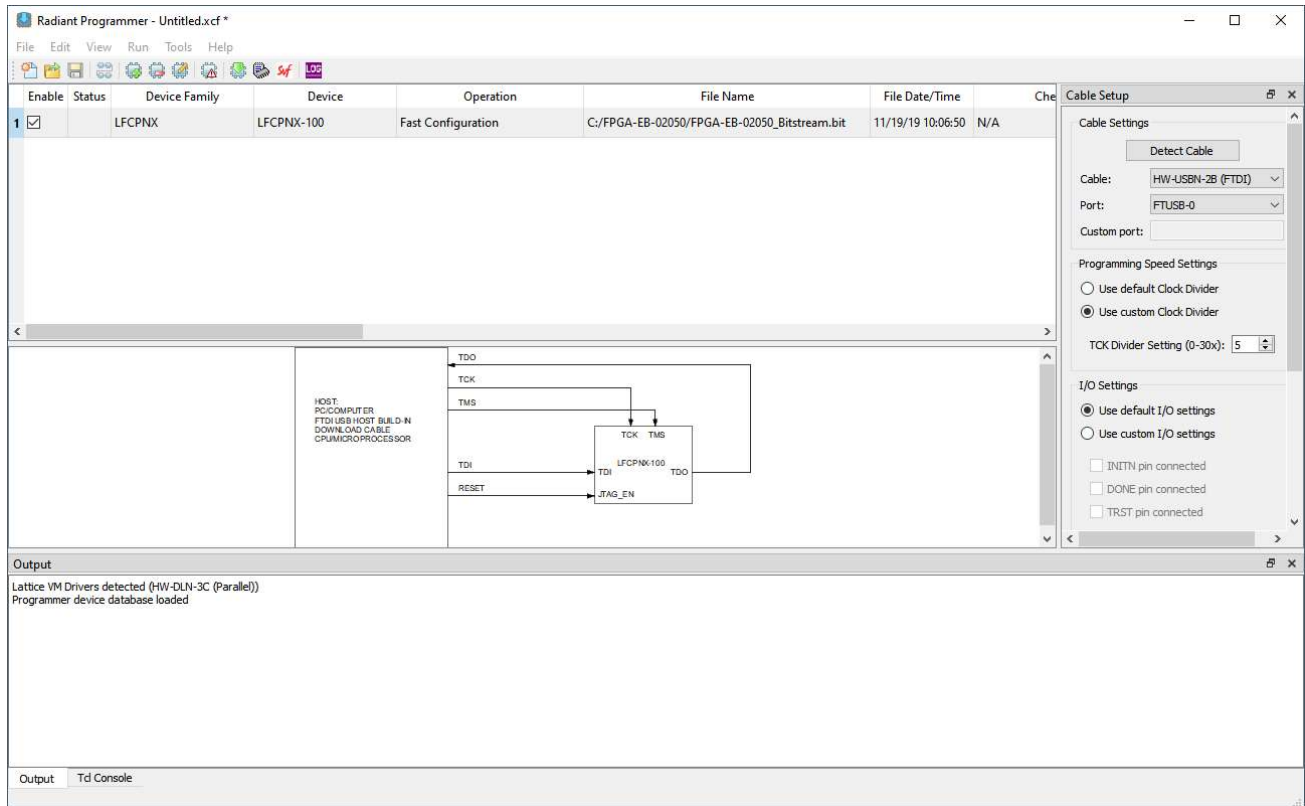

Figure 3.3. Entering File Name
- When the board is successfully scanned, the window shown in Figure 3.3 appears. This interface allows you to enter the file name.